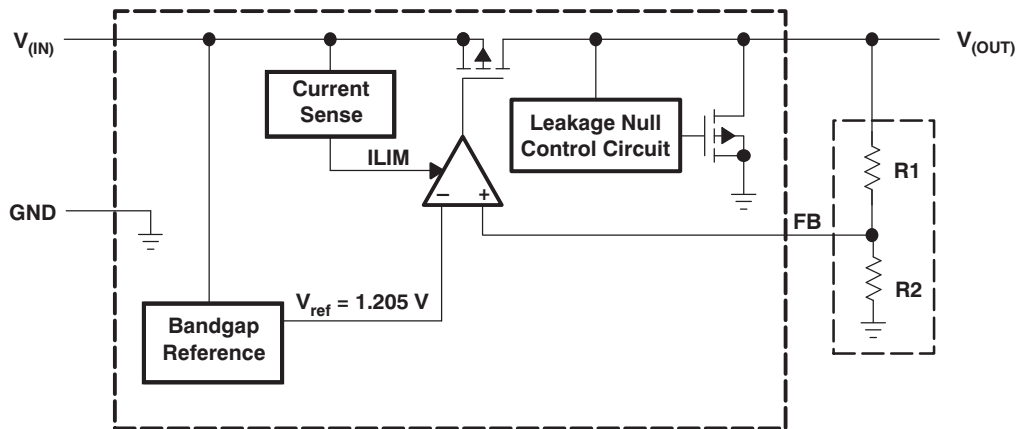

Figure 1. Functional Block Diagram—Adjustable Version
(1) Minimum  $V_{IN} = V_{OUT} + V_{DO}$  or the value shown for *Input voltage* in this table, whichever is greater.
(2) See Figure 1. The TPS715xx family employs a leakage null control circuit. This circuit is active only if output current is less than pass FET leakage current. The circuit is typically active when output load is less than  $5\text{ }\mu\text{A}$ ,  $V_{IN}$  is greater than  $18\text{ V}$ , and die temperature is greater than  $+100^\circ\text{C}$ .